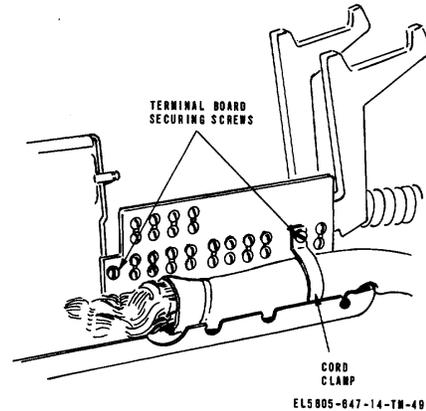

Figure 5-4. Express-Link-Local-Order Wire Unit TA-923/FSC, terminal board and line cord mountings
- (1) Desk-type orderwire unit.
- (b) Remove cord clamp (fig. 5-4).